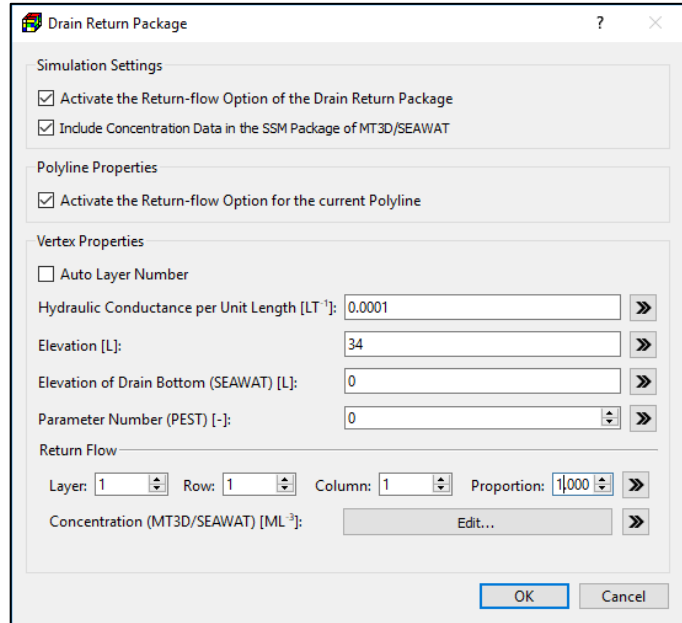

Figure 56. The Drain Return Package dialog box for specifying vertex/polyline properties
3. **Polyline input method:** Figure 56 shows the dialog box that is used to specify vertex/polyline properties.